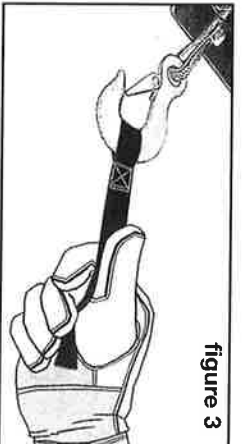

figure 3
7. PORTEZ DES GANTS EN CUIR ÉPAIS lorsque vous manipulez le câble métallique. NE LAISSEZ JAMAIS LE CÂBLE GLISSER DANS VOS MAINS. MÊME SI VOUS PORTEZ DES GANTS, UTILISEZ TOUJOURS LA SANGLE DE SÉCURITÉ lorsque vous tenez le câble pendant qu'il s'enroule ou se déroule (figure 3).
1. KEEP A TIGHTLY WOUND WIRE ROPE DRUM. Keep the wire rope tightly and evenly wound on the drum all the time. Do not allow the wire rope to become loosely wound. A loosely wound drum allows a wire rope under load to work its way down into the layers of wire rope on the drum. When this happens, the wire rope may become wedged within the body of the windings damaging the wire rope. A good practice is to rewind the wire rope under tension after each use. Apply tension using hand saver strap (Figure 3) and ALWAYS wear gloves.